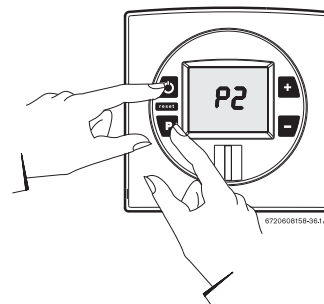

Fig. 57
- ▶ While holding the Program (P) button in, press the ON/OFF button to turn ON the heater (see Fig. 57). As soon as '188' flashes on the display, release the Program button. The display should now read P2. Press '■' button until "P1" appears on display.